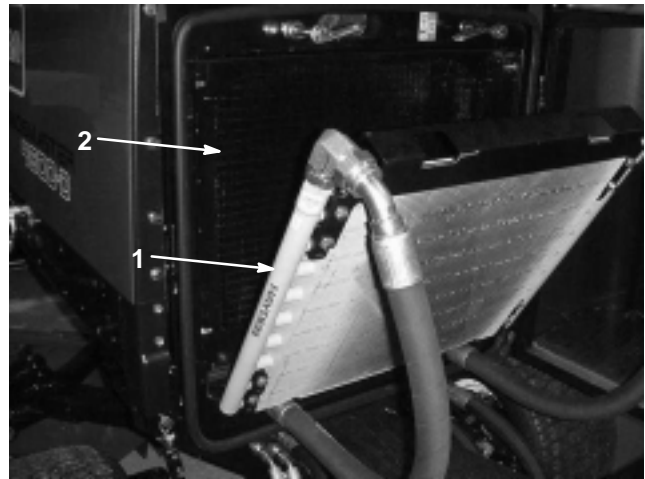

Figure 34
3. Pivot the oil cooler rearward. Clean both sides of the oil cooler and radiator area (Fig. 34) thoroughly with compressed air.